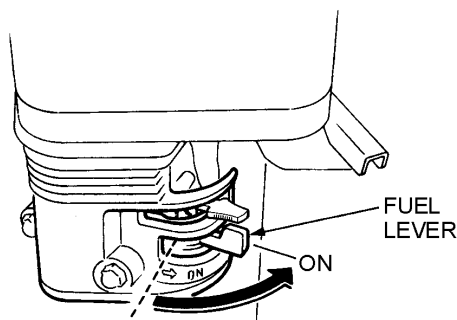

Figure 7. Engine Fuel Valve Lever (ON Position)
1. Place the engine fuel valve lever (See Figure 7) to the **ON** position.